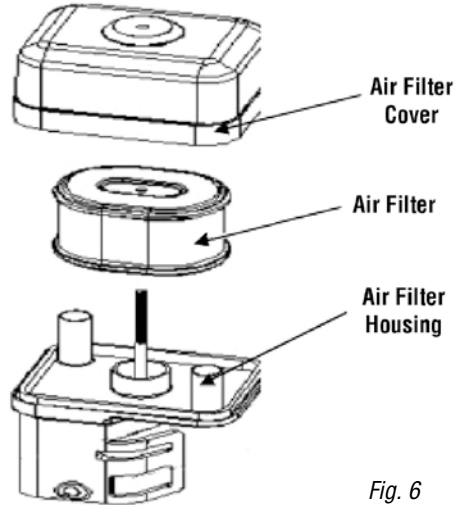

Fig. 6
1. Remove the air cleaner's outside cover (Fig. 6). Do not allow dirt and debris from to fall into the air cleaner assembly.